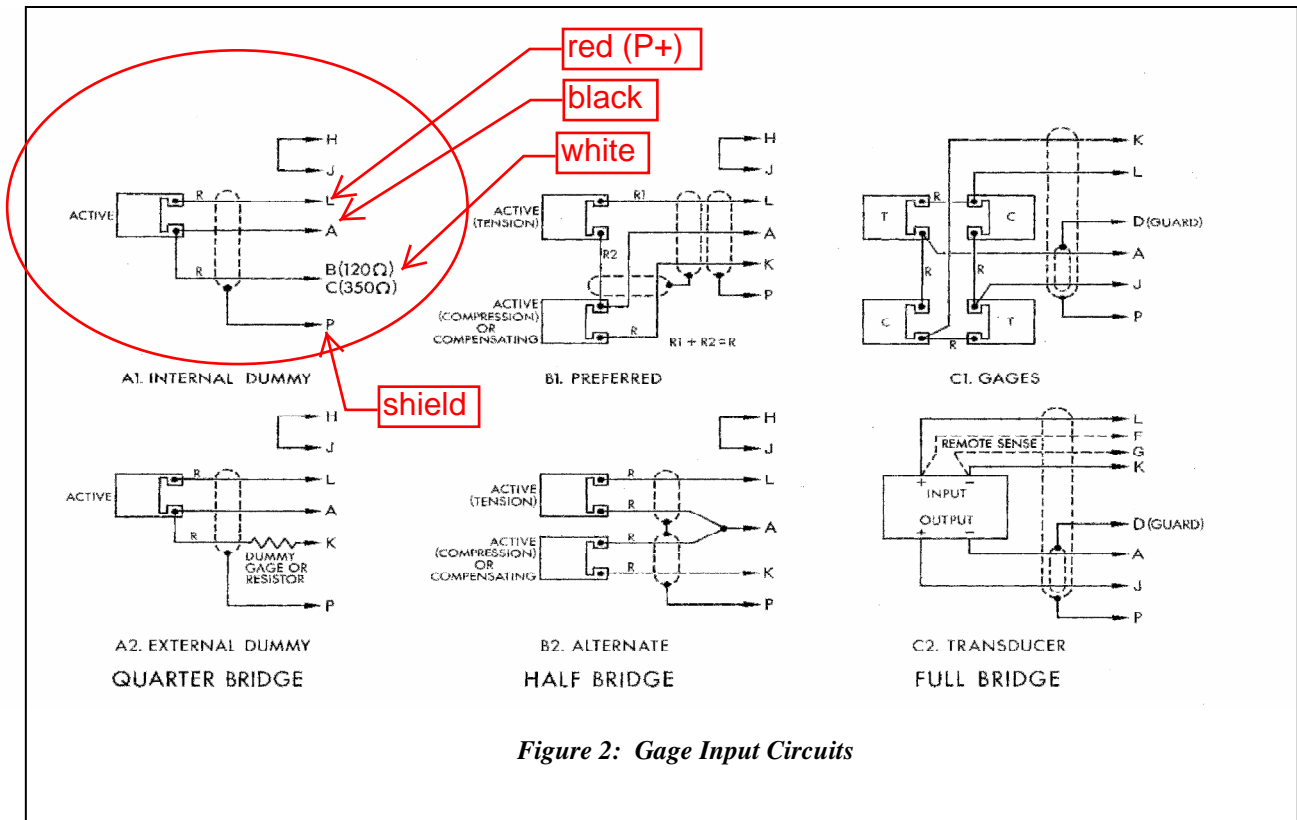
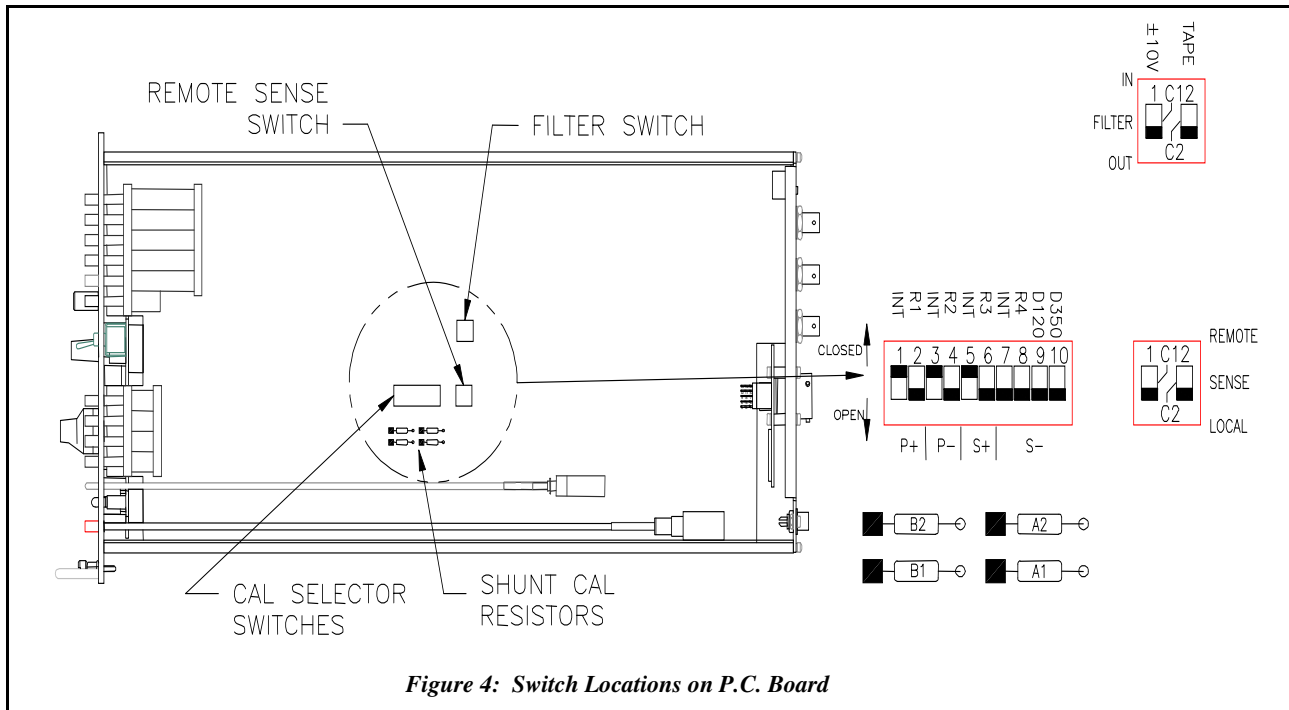

Figure 2: Gage Input Circuits
Figure 4: Switch Locations on P.C. Board
4.2b The basic input arrangements are shown in Figure 2. Note that, except when using an external full bridge, there must be a jumper in the input plug connecting pins H and J; this connects the midpoint of the internal half bridge to the S+ amplifier input. Precision 120 Ω and 350 Ω dummy gages are provided in each Model 2310B. If using a quarter bridge with resistance other than 120 Ω , 350 Ω , or 1000 Ω , use circuit A2 in Figure 2. For 1000 Ω quarter bridges, see Appendix.
4.2c When using an external full bridge (especially a precision transducer), it may be desirable to employ the remote-sense circuitry provided in the 2310B to maintain constant excitation at the transducer regardless of lead resistance. To enable this circuit, open the right side-cover of the 2310B and raise the small red SENSE switch to REMOTE (see Figure 4). Connect the sense leads between the transducer and pins F and G of the INPUT plug as shown in Figure 2, C2.
4.2d If it is desired to employ shunt-calibration across one of the external bridge arms, additional wiring is required to achieve maximum accuracy (see 5.0 **Shunt Calibration** for details). However, for half- or quarter-bridge inputs, shunting the internal dummy half bridge or dummy gage is normally recommended; neither of these circuits requires additional wiring from that shown in Figure 2.
- a) In the quarter-bridge circuit, *always* use the three-leadwire circuit shown in Figure 2, rather than the more obvious two-leadwire circuit.
The filter can affect either one or both of the outputs. To select the outputs to be filtered, open the right side-cover of the 2310B and note the two toggles on the red FILTER switch (near the top of the p.c. board) marked ±10V, and TAPE; this switch is shown in Figure 4. Any toggles in the IN (up) position indicate that that output will be filtered when any FILTER button other than WB is depressed; outputs for which the toggle is in the OUT (down) position will still be operating at wide-band. Filter characteristics are discussed in 4.13 Filter.